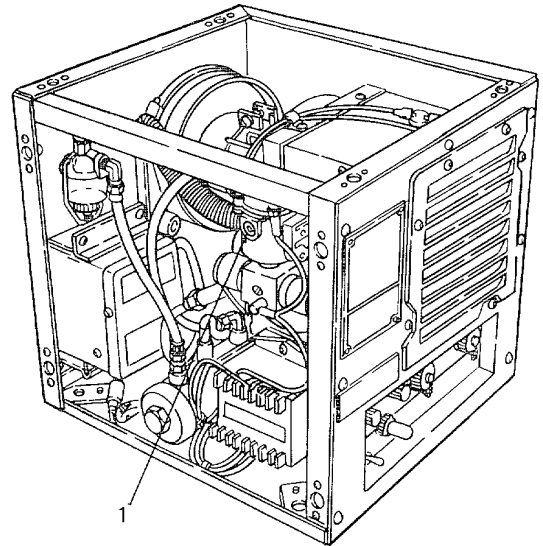

Figure 4-3. Adjusting Carburetor.
- (1) Make sure the fuel supply is adequate for checks and adjustments.
- (2) Set the room thermostat knob to less than the enclosure ambient temperature.
- (3) Set the ON-OFF switch on control panel to ON. The heater must not start. Place ON-OFF switch to OFF.
- (4) Set the thermostat to a temperature above enclosure room temperature.
- (5) Set the ON-OFF switch to ON. After an approximate 30 second delay the heater will start. Check that the blower operates and the heater circulates warm air.
(6) Check that the exhaust does not smoke and check heater for erratic operation. If heater smokes or operates erratically, adjust the carburetor.
- (a) See Figure 4-3. For smoke, adjust the fuel needle (1) on carburetor 1/8 turn clockwise to reduce fuel flow.
- (d) If heater operates erratically or improperly, turn fuel needle (1) 1/8 turn counterclockwise to increase fuel flow. Allow to run for one minute and observe heater operation. If necessary, continue to turn fuel needle 1/8 turn counterclockwise until heater operates satisfactorily.